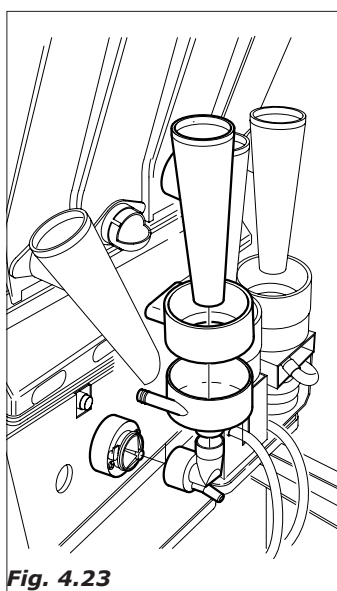

Fig. 4.23
- remove all the powder chutes, water funnels, mixing bowls and whippers and silicone tubes and dip these parts also in the prepared solution (Fig.4.23)